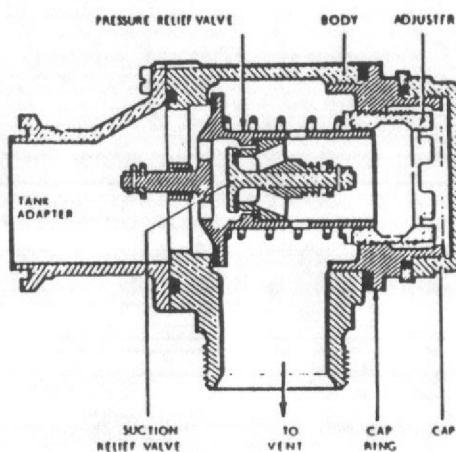

Fig. 3 Suction and pressure relief valve
**Suction and pressure relief valves - front tanks (Fig. 3)**